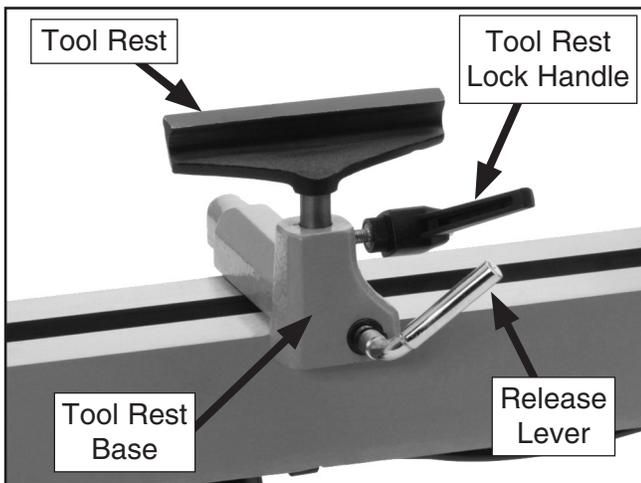

Figure 6. Tool rest positioned.
2. Loosen the tool rest lock handle and rotate the tool rest so that it is positioned parallel to the lathe bed (**Figure 6**).